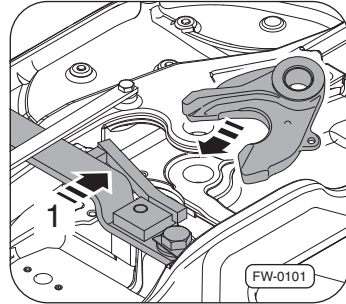

Fig. 34 · Insert lock part
1. Check the locking bar Fig. 34, –arrow 1– for visible damage, replace if necessary.
3. Insert and Fit the new coupler jaw Fig. 34.